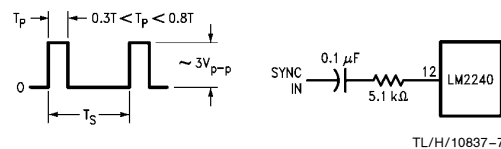

FIGURE 4. Operation with External Sync Signal
The oscillator time-base period (T) can be modulated by applying a DC voltage to MOD, pin 12 (see Performance Curves). Also, the time-base oscillator can be synchronized to an external clock by applying a sync pulse to MOD, pin 12 as shown in Figure 4. Recommended sync pulse widths and amplitudes are also given.